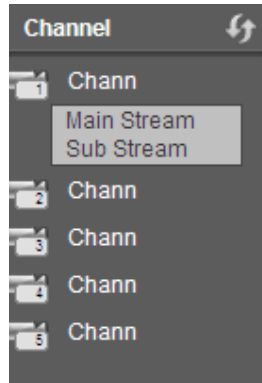

Figure 5-4
- Please refer to Figure 5-4 for main stream and extra stream switch information.